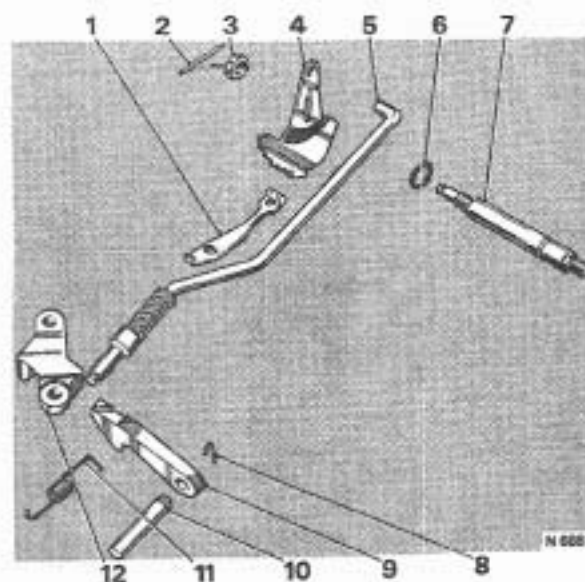

FIG. T233 MANUAL AND PARKING LINKAGE—EXPLODED
8. Remove the setscrew which secures the detent spring and roller assembly to the control valve unit; remove the detent spring assembly. Refer to Figure T233 for an exploded view of the internal parts.